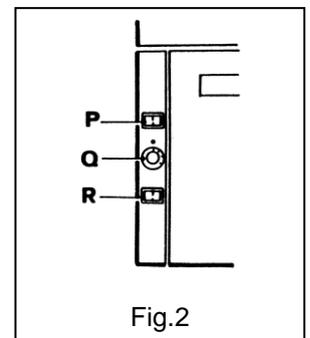

Fig.2
3.2 Electric warm cabinet (Fig. 2)